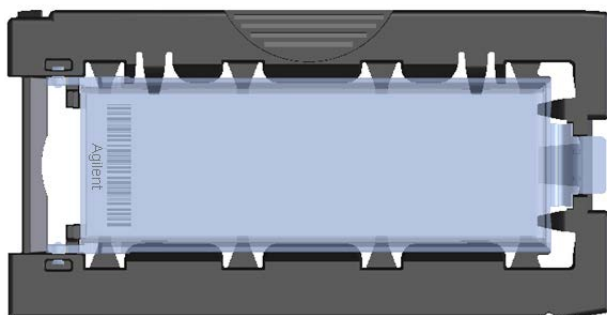

Figure 31 Slide inserted in slide holder – cover closed
- f Close the plastic slide cover, gently pushing on the tab end until you hear it “click”. See **Figure 31**. Make sure that the slide holder is completely closed.